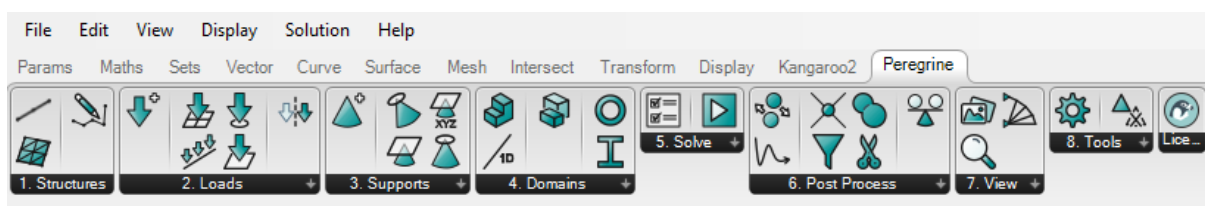
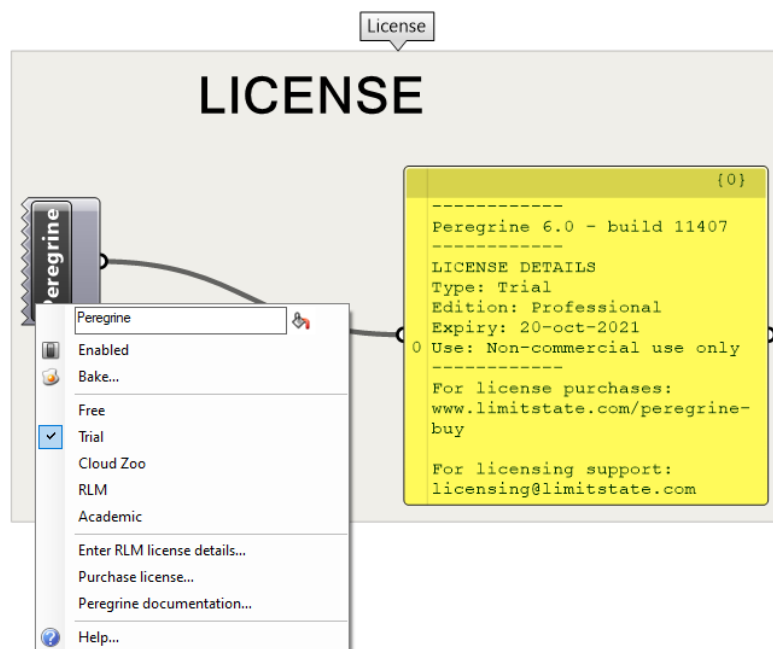

Figure 1 – The Peregrine tab on the Grasshopper component panel (ribbon)
Figure 2 – Licensing options in the Peregrine License dialog
Following installation of Peregrine, a new category called Peregrine should be visible as a tab on the component panel (Figure 1) when starting Grasshopper (GH).
The Peregrine License component can be found at the right of the Peregrine toolbar (Figure 1). After dragging on to the canvas, right-clicking the component name provides the user with the ability to select between a number of different licensing systems (or Types), as seen in Figure 2: